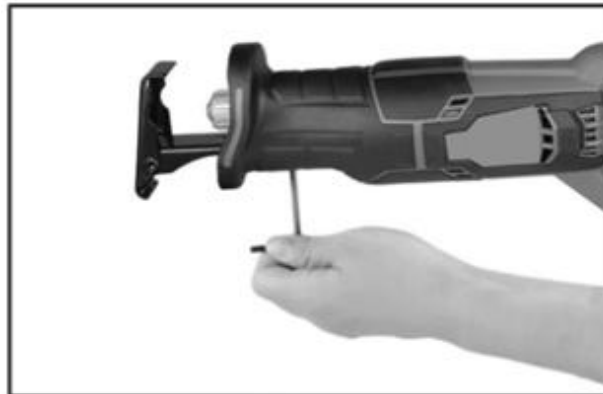

Fig. 4
- Loosen the two cap screws at the bottom of the front handle with the hex key provided.(Fig. 4)
- Move the pivot shoe (2) in or out to the position required.